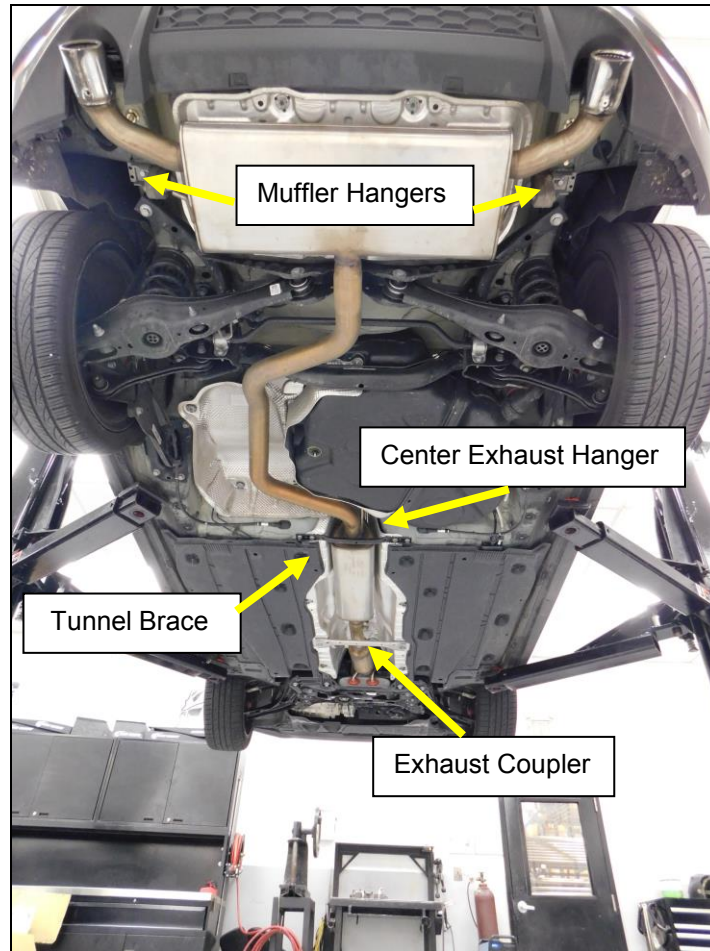

Figure 1
2. Remove the (x2) 13mm bolts at the muffler hangers and the (x1) 13mm bolt at the center exhaust hanger at the rear of the OEM resonator (**Figure 1**).
3. Remove the Tunnel brace at the rear of the center resonator. It is not necessary to remove the tunnel brace in front of the center resonator (**Figure 1**).